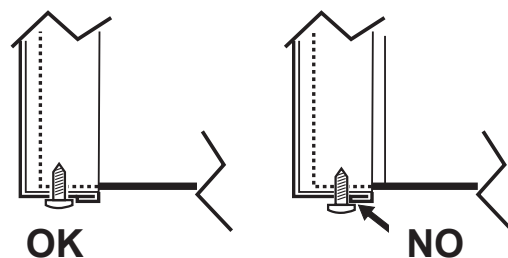

fig. 15 - assembly with bottom screws
3. Proceed in reverse order to reassemble the front panel. Make sure that it is correctly attached to the upper fixing and completely resting on the side panels. The head of the screw "A", once tightened, must be positioned as indicated in "fig. 15 - assembly with bottom screws".